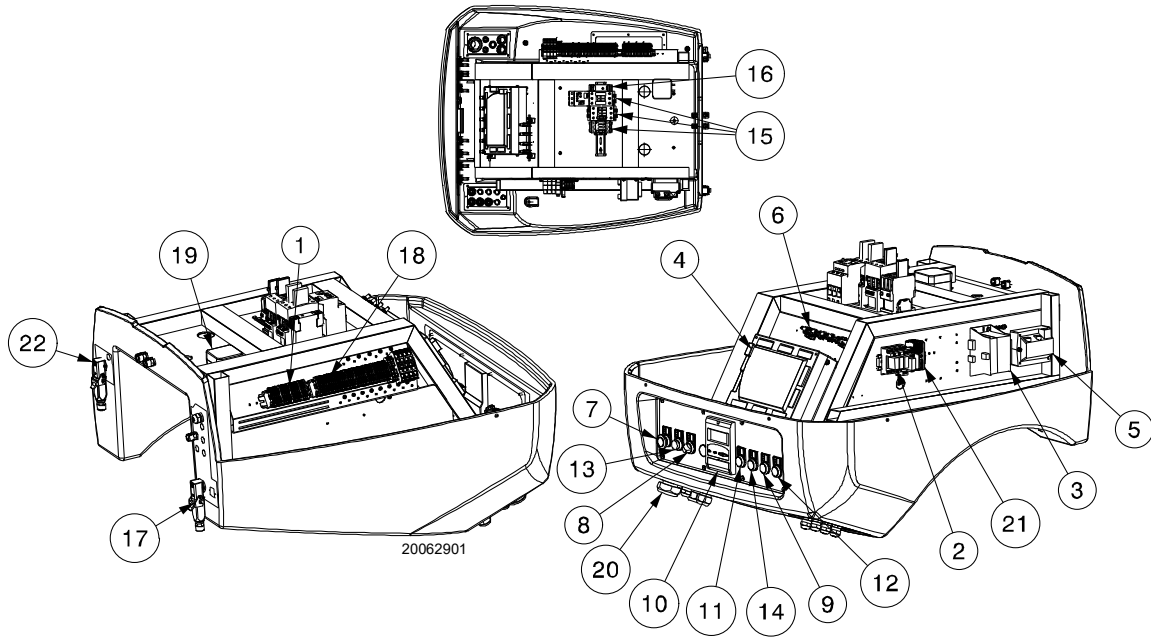

Fig. 5
- **flame control lockout:** if the pushbutton 13)(Fig. 5) (**red led**) lights up, it indicates that the burner is in lockout. release by pressing the pushbutton 13)(Fig. 5).